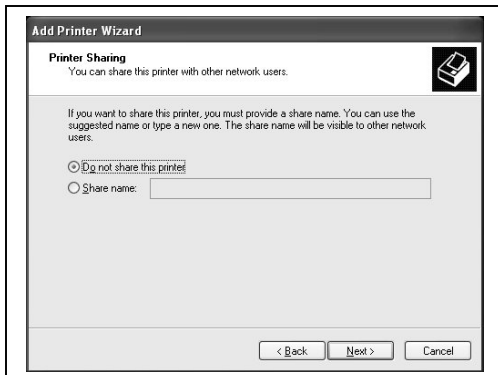

fig 9
9. In the “Printer Sharing” window, select “Do Not Share the Printer” (fig 9) and click Next.